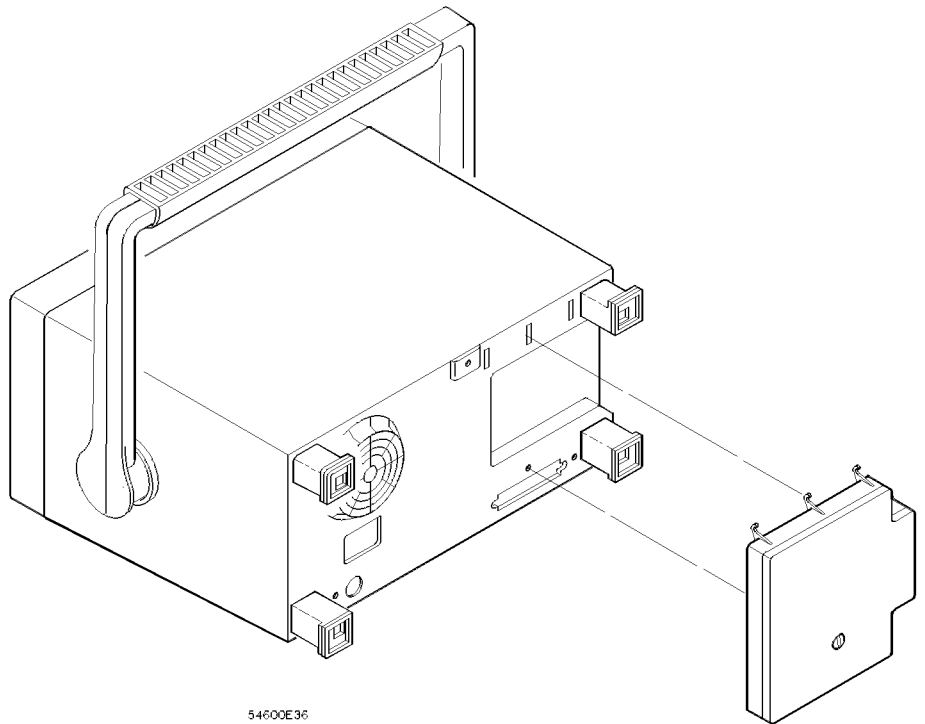

Figure 1-1. Installing the remote programming module.
2. Install the module as shown in Figure 1-1.